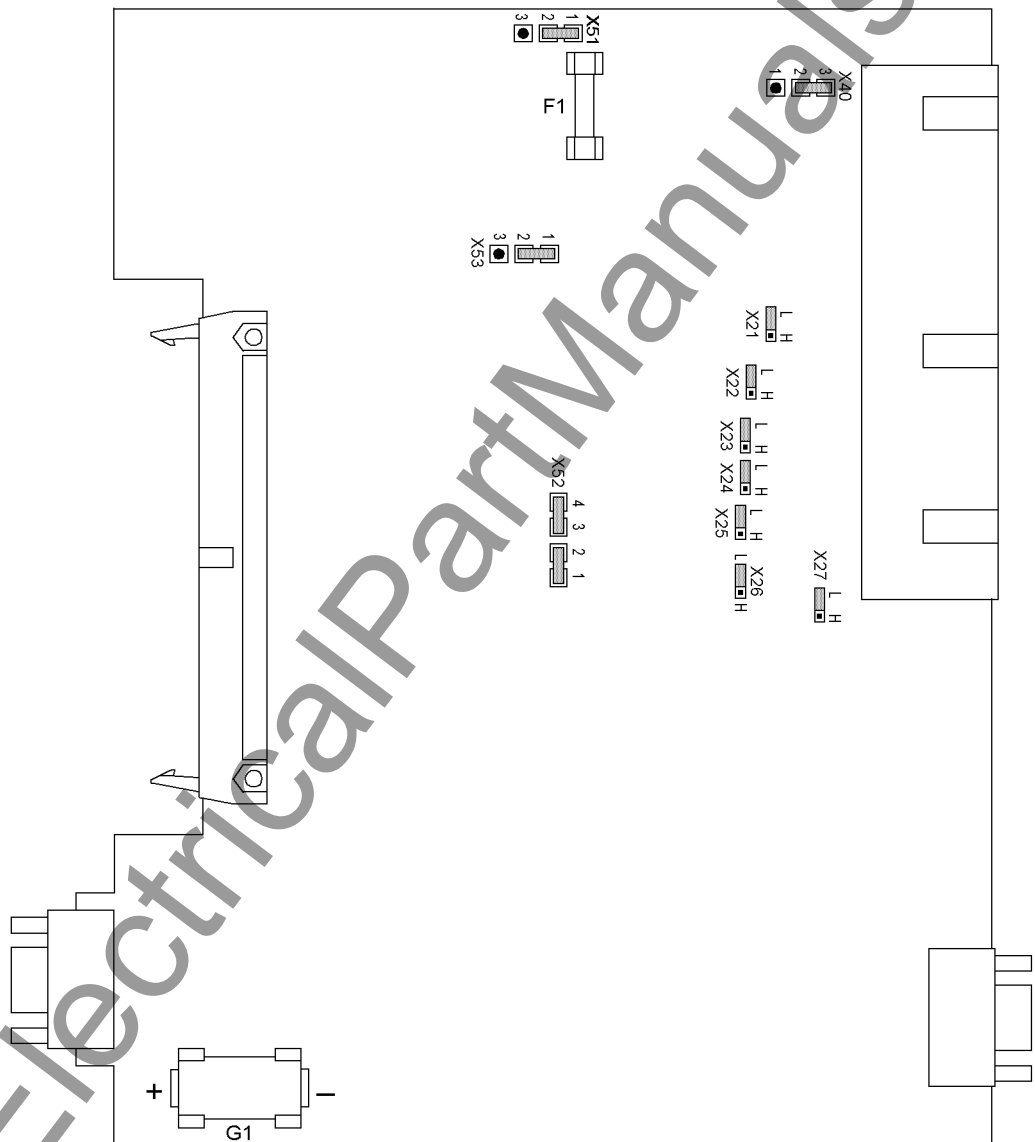

Figure 3-3 Processor module CPU with representation of the jumpers required for checking the settings
Spare parts can be the battery for storage of data in the battery-buffered RAM in case of a power failure, and the internal power supply miniature fuse. Their spacial allocation is shown in Figures 3-3 and 3-4. The ratings of the fuse are printed on the board next the fuse itself. When replacing the fuse, please observe the guidelines given in the SIPROTEC®4 System Description /1/ in the chapter "Maintenance" and "Corrective Action / Repairs".
- Release the connector of the ribbon cable between B-CPU processor module (1) and front cover at the front cover itself. Press the top latch of the plug connector up and the bottom latch down so that the plug connector of the ribbon cable is pressed out.
- Disconnect the ribbon cables between the B-CPU (1) board and the I/O boards ((2) to (4), depending on the variant ordered).
- Check the jumpers in accordance with Figures 3-3 to 3-6 and the following information, and as the case may be change or remove them.